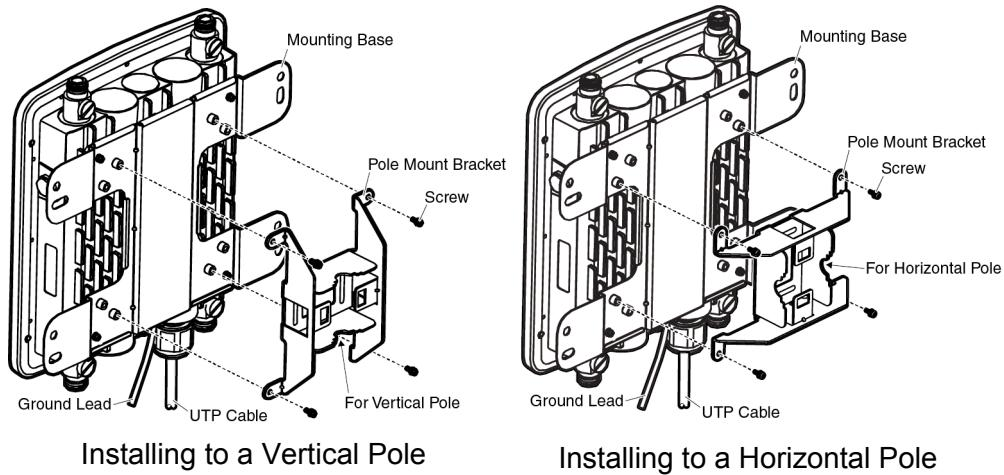

Figure 19. Attaching the Pole-Mount Bracket to the Mounting Base
- Orient the pole-mount bracket for installing to either a vertical pole or a horizontal pole. See Figure 19.